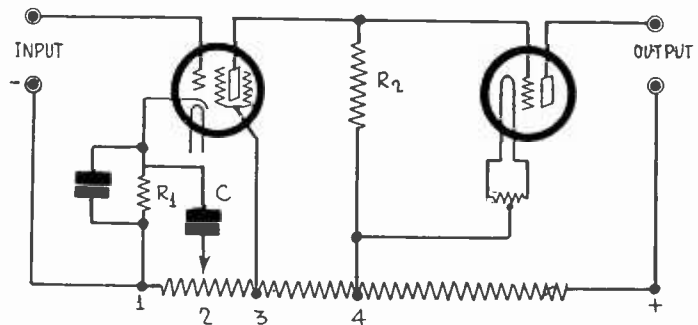

FIG. 857
Fig. 857 is a diagram of a receiver similar to the Loftin-White. Exact values of the resistances cannot be given because they depend somewhat on the tubes used and the final adjustment must be made experimentally. However, the following values are approximately correct: R1, 50,000 ohms; R2, 0.5 megohm; resistance (1) to (3), 400 ohms in the form of a potentiometer; resistance (3) to (4), 5,000 ohms; resistance (4) to (+), 50,000 ohms. Condenser C should be 0.1 mfd. and the other condenser one megohm. The low resistance potentiometer across the 245 filament need not be higher than 20 ohms, but it should be accurately center-tapped. The slider on the 400 ohm potentiometer should be put where the hum is least. In adjusting the circuit two things should be watched carefully, namely, the bias on the 245, which is the drop in R2, and the screen voltage on the 224. The bias on the last tube should be 50 volts and may be assumed to be correct when the plate current in the output tube is 32 milliamperes. It may be varied by varying the resistance between (3) and (4), by varying the screen voltage, that is, the resistance between (1) and (2), or by varying R1. The total voltage required between (+) and (—) is 450 volts, although the circuit will work on somewhat less.